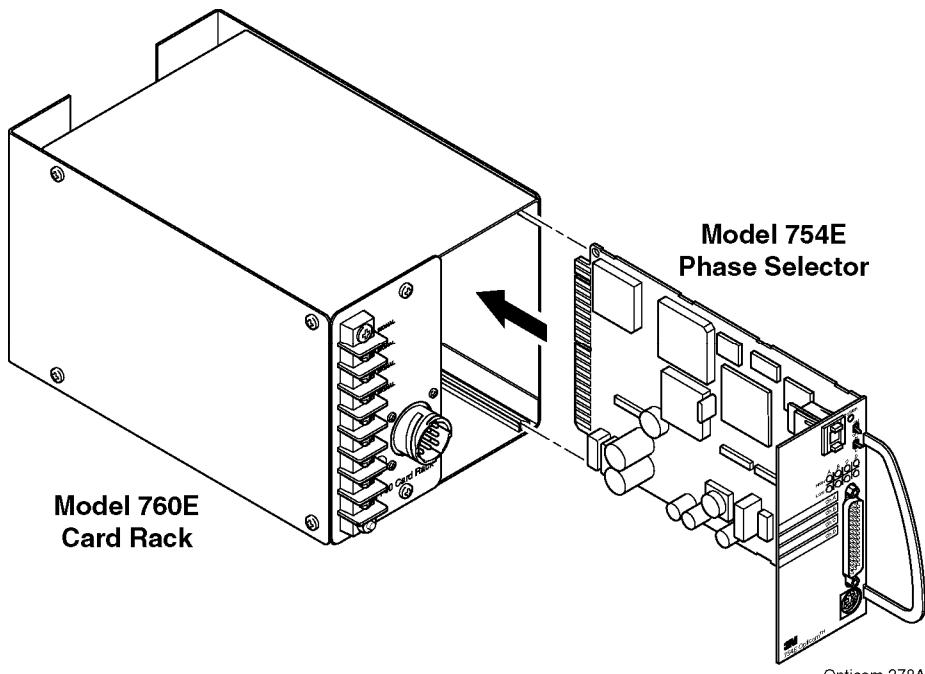

Figure 5-2. Phase Selector Installation
2. Install the phase selector into the Model 760E card rack making sure it is fully seated. See Figure 5-2.